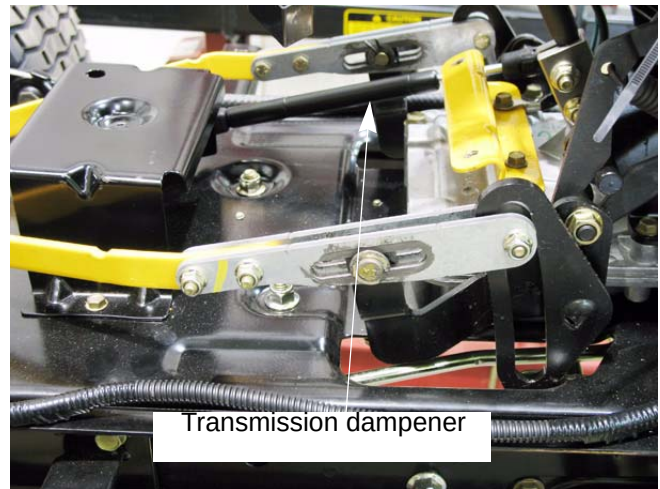

Figure 6.22
5. Remove the transmission dampener cylinder using two 1/2" wrenches. See Figure 6.22.